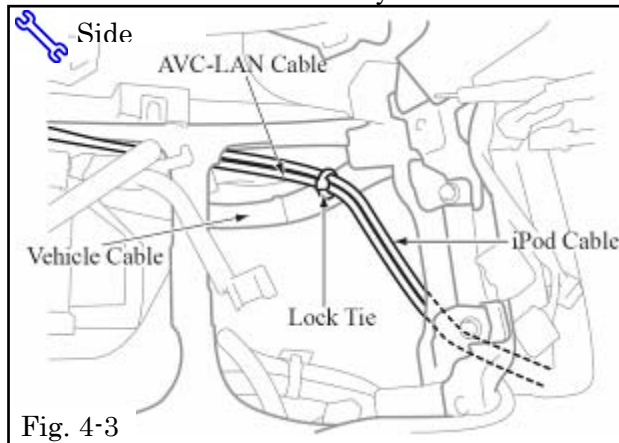

Fig. 4-3
- (f) Secure the AVC-LAN cable and the iPod cable together to the existing vehicle wiring using a 6" lock tie. (Fig. 4-3)